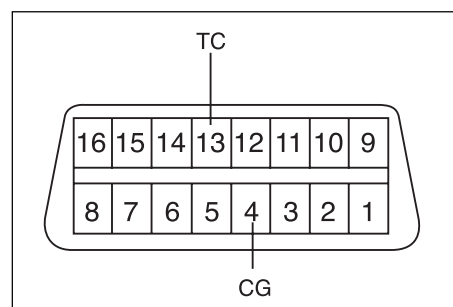

Figure 1-2
10. Check the ignition timing (see Figure 1-2).